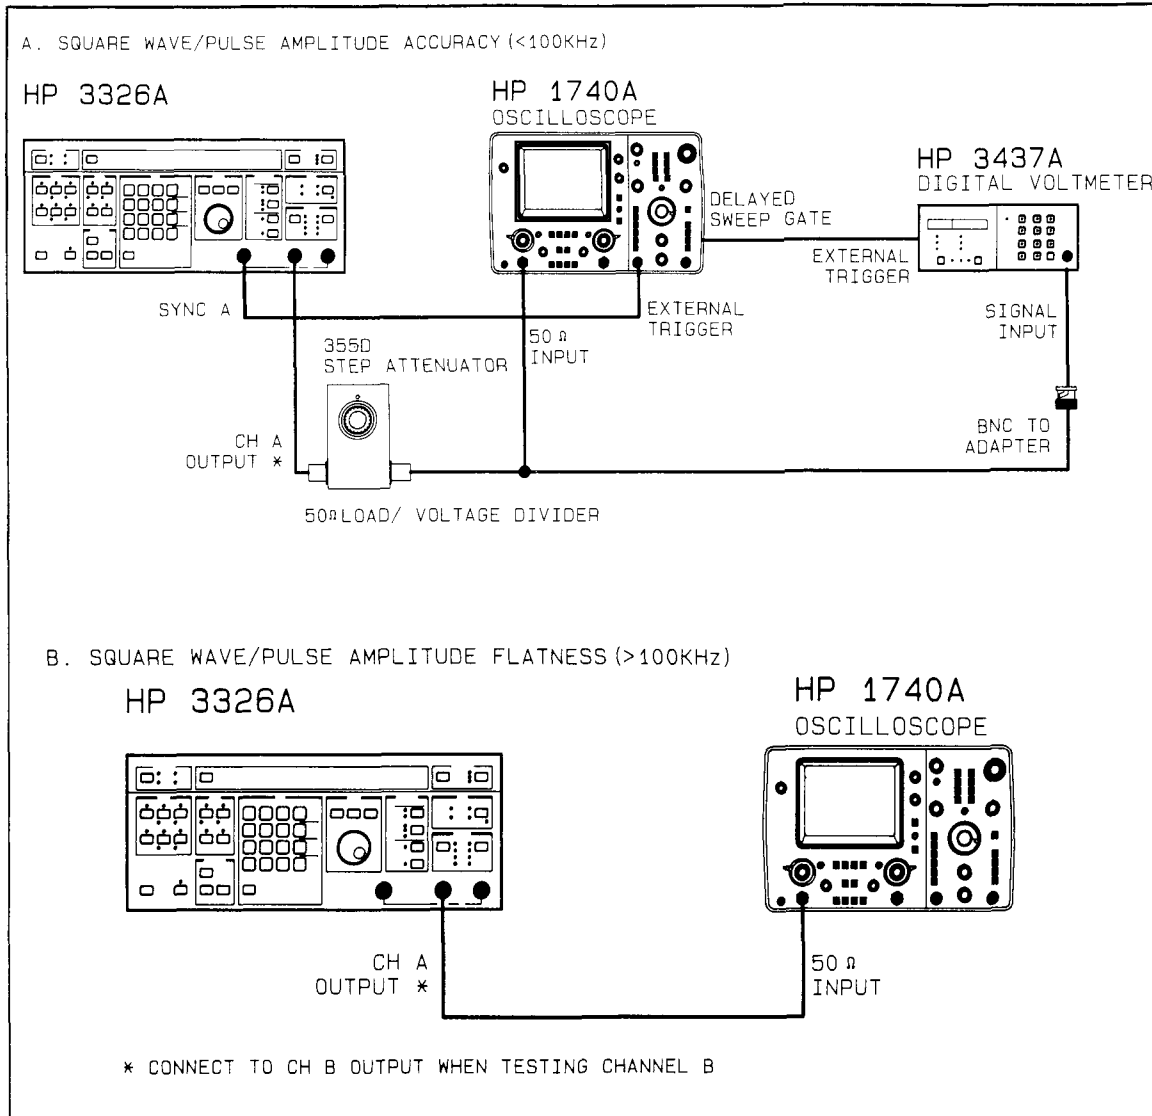

Figure 2-8. Square Wave/Pulse Amplitude Accuracy Test
2. Connect the test equipment as follows (illustrated in Figure 2-8(A)):
2. Connect the test equipment as follows (illustrated in Figure 2-8(B)):